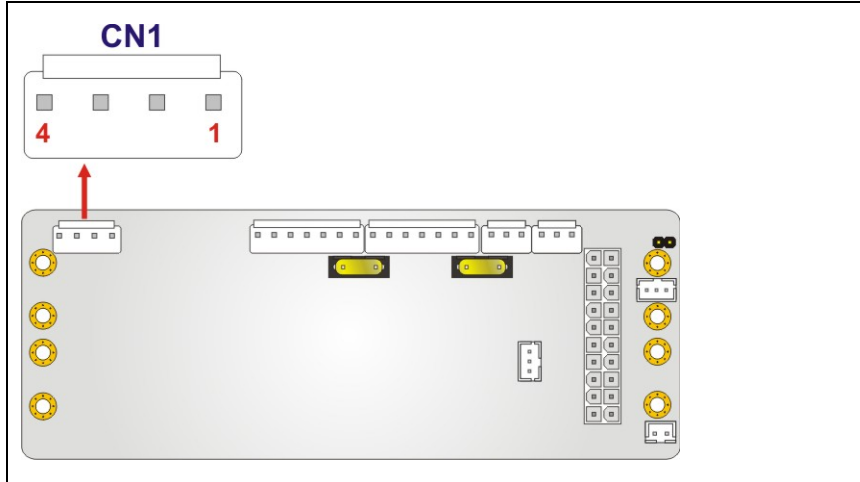

Figure 4-7: Input Power Connector Location
- CN Location:** See **Figure 4-7**